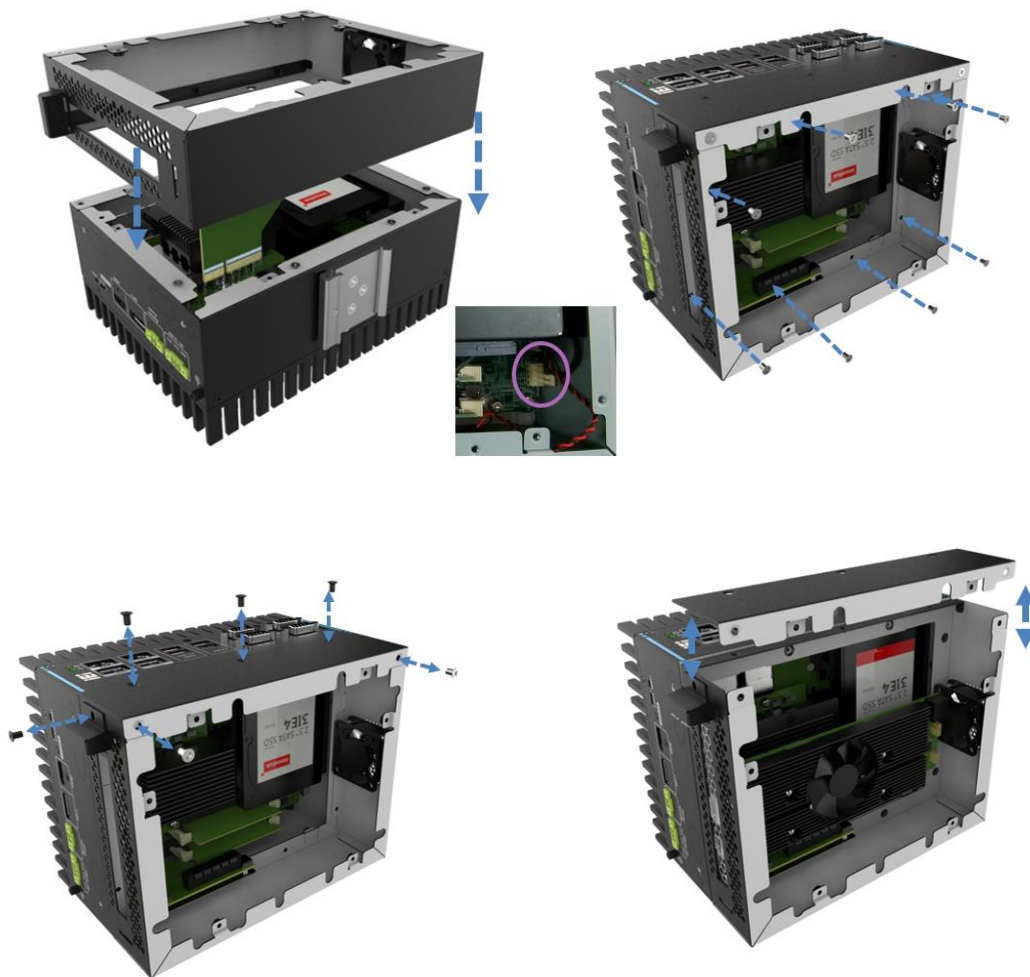

Figure 3-15: Expansion Chassis Installation
- Step 3:** To install an expansion card, open the cover on the top cover of the expansion chassis by removing 6 screws. Remove the blank bracket and install the PCIe card. Reinstall the bracket screw and the top cover after installing the card (**Figure 3-15**).